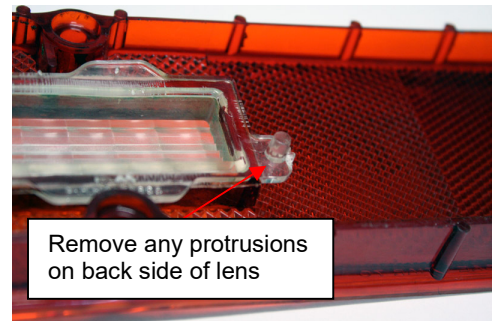

Figure 3
7. Using side cutters or similar, cut off any protrusions surrounding the reverse light lens, as shown in Figure 3.